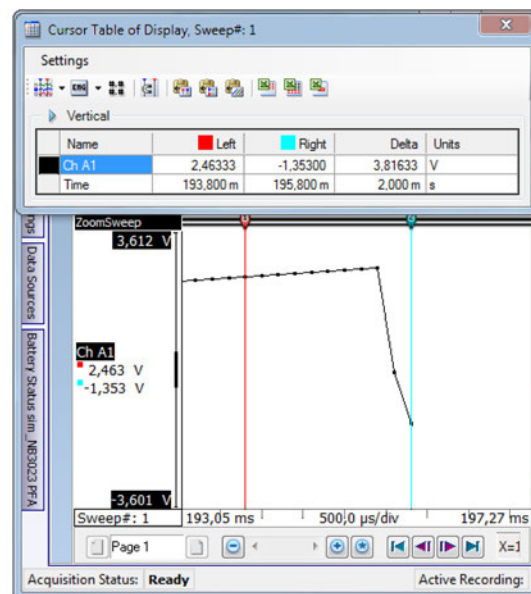

Figure J.10: Sample recording 2
- Next sample recorded (sample of blue cursors, see Figure J.10)